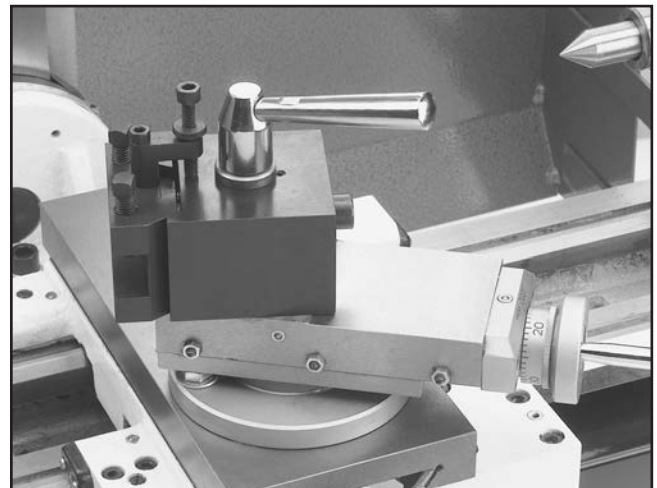

Figure 22. Optional quick change tool post installed.
5. Replace the tool post lock handle and tighten it to keep the tool post secured in place. **Figure 22** shows the quick change tool post installed.